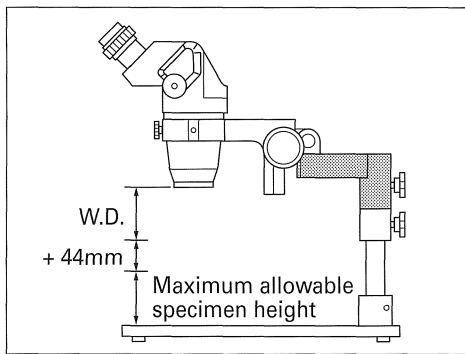

Fig. 8
- By attaching the large-size microscope stand arm in the reversed position, the maximum allowable specimen height may be increased by 44mm. (Fig. 8)